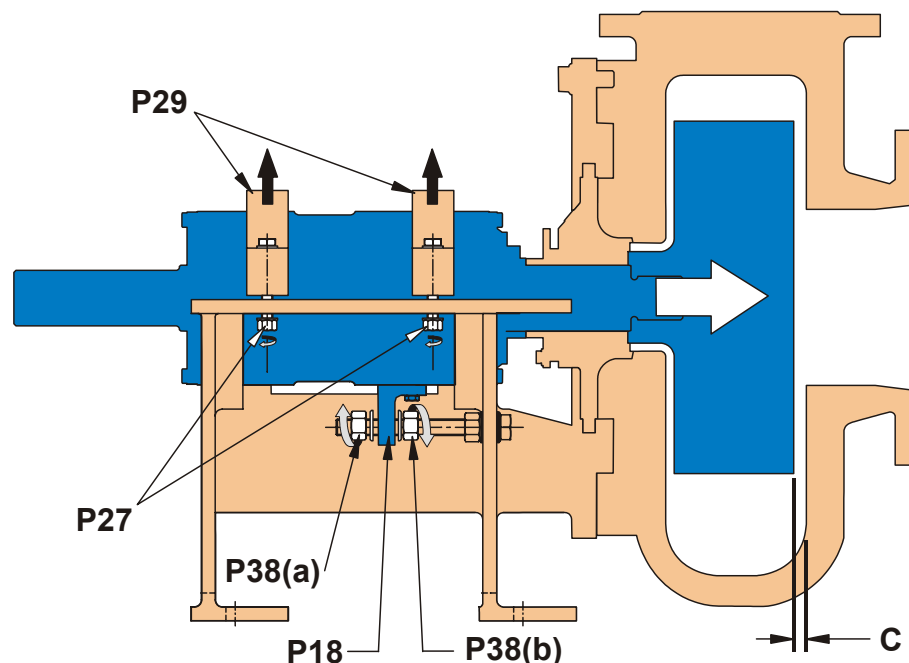

Figure 9.5.1-1 Adjusting the impeller inlet-side clearance
- a) Loosen the two adjusting screw locknuts (P38 a & b) –see Figure 9.5.1-1.